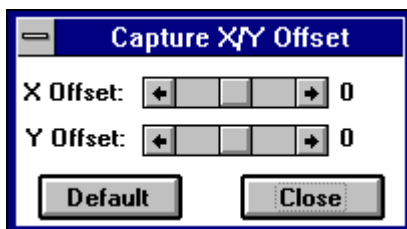

Figure 3-24.
6. **SELECT** ‘Capture X/Y Offset’ to adjust the color within the video window if the color does not appear correct (see Figure 3-24).